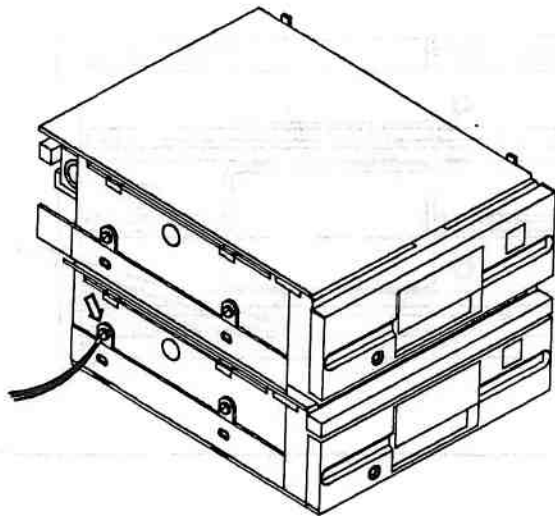

Figure 3-24. Removing Drive Assembly Ground Strap
- Using a standard screwdriver, carefully remove the screw from the side of the assembly that secures the ground strap (Figure 3-24) and remove the assembly from the cabinet.